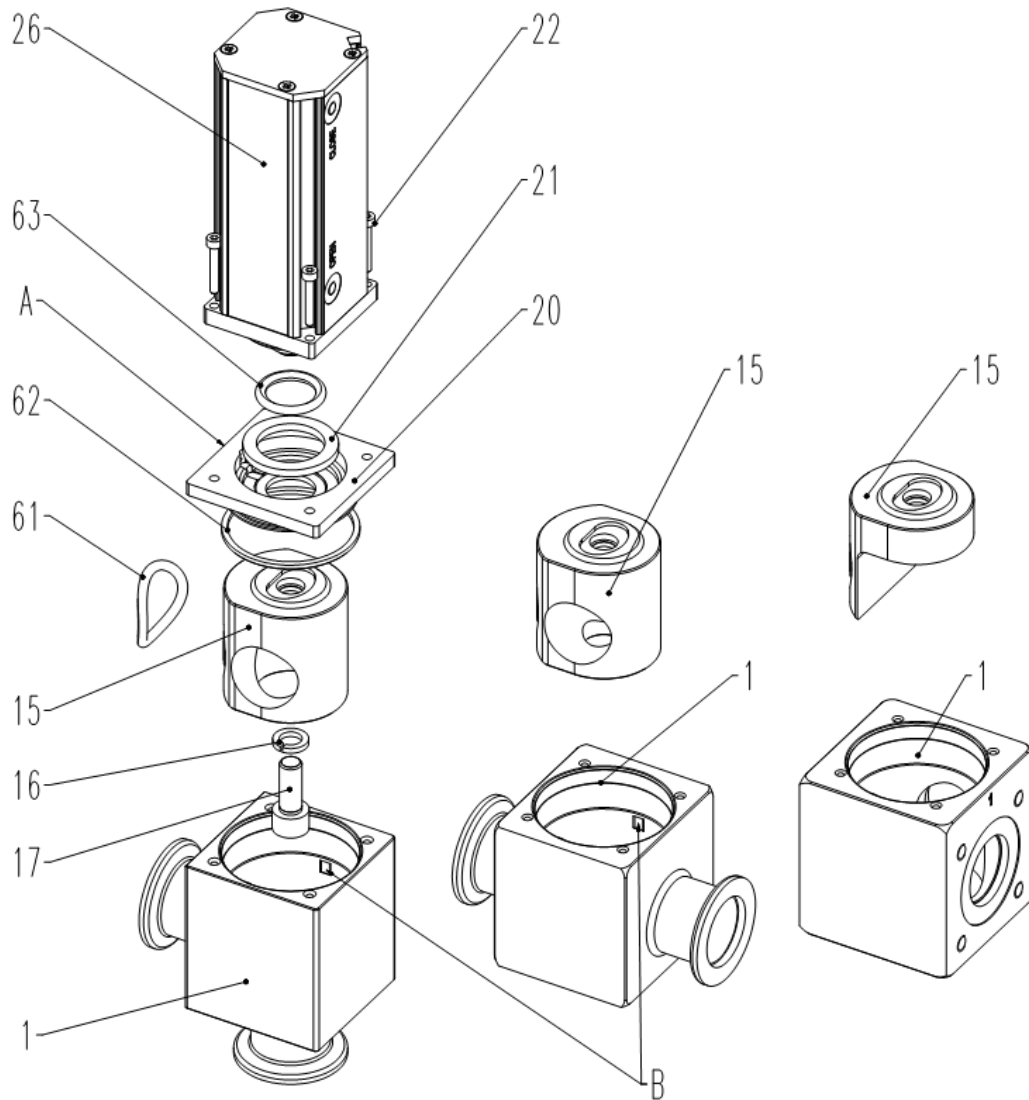

Figure 6-2
The leak detection port; see Figure «Figure 6-2» on page 16, should be located on the opposite side from the compressed air inlets.
17. Insert the gate fixation screw (17) and washer (16).
18. Tighten the gate fixation screw (17) with a tightening torque of 10 Nm.
19. Put new gate seal (61) on the groove and press it into the groove at 4 opposite spots. Press remaining sections uniformly into groove.
20. Put new bonnet seal (62) into bonnet flange (20).
21. Make sure that the gate (15) is located in an intermediate position (not locked in an end-position).
22. Carefully insert the valve insert into the body (1).
See Figure «Figure 6-2» on page 16, for correct location of venting groove inside valve body (1) with compressed air connection ports from the actuator.
23. Fasten actuator screws (22) uniformly and in crosswise order.